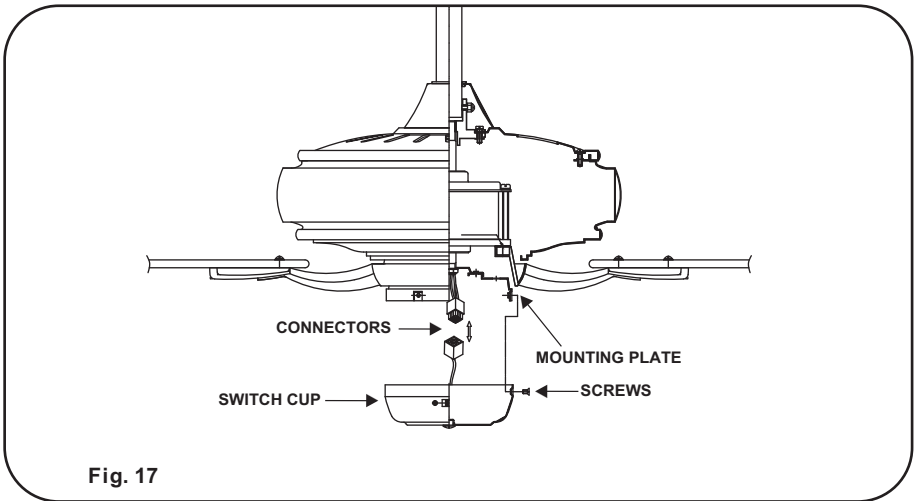

Fig. 17
Step 1. Remove the screws from the switch cup plate. While holding the switch cup, firmly snap the wire molexes together. Next, slide switch cup up against plate and rotate it until the screw holes are aligned. Secure switch cup to plate using the screws removed earlier. (Fig. 17)
Step 2. Attach the pull chain fob to the chain on the switch cup. (Fig. 17)